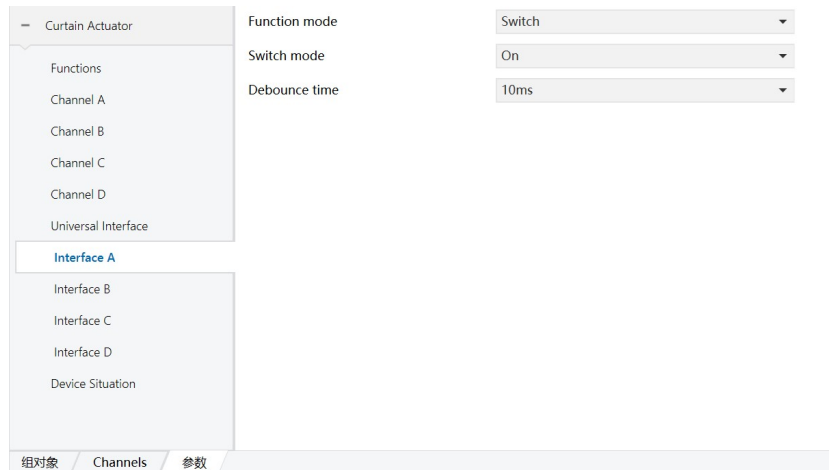

Figure 6.2.2
2) After the setting is completed, there will be Interface A-D four dry contact interfaces on the right. Click each dry contact interface to set its parameters. The following uses Universal Interface A as an example, as shown in Figure 6.2.2.